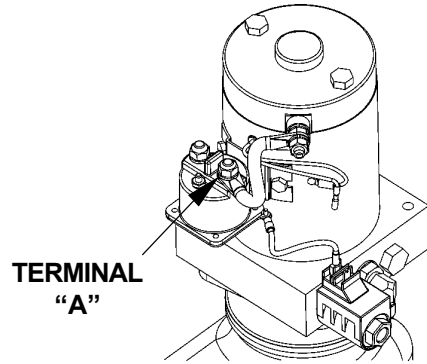

FIG. 42-1
1. Use voltmeter to verify that power is being supplied to Solenoid Terminal "A". Recharge the battery if voltmeter indicates less than 12.6 Volts (FIG. 42-1).